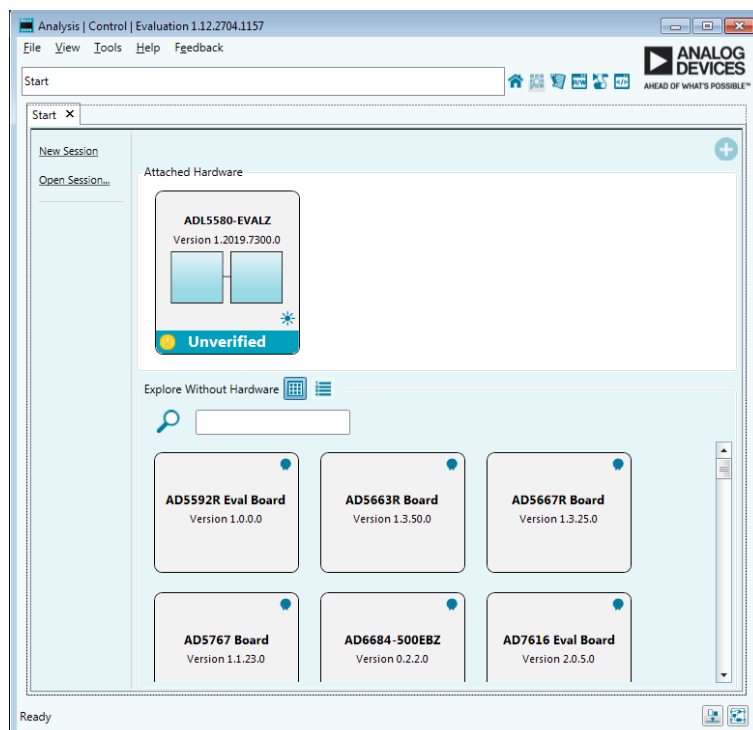

Figure 6. Initial ACE Start Page
- Launch the ACE application. This action displays the initial ACE start page as shown in Figure 6. The ADL5580-EVALZ is detected automatically and displays under **Attached Hardware**.